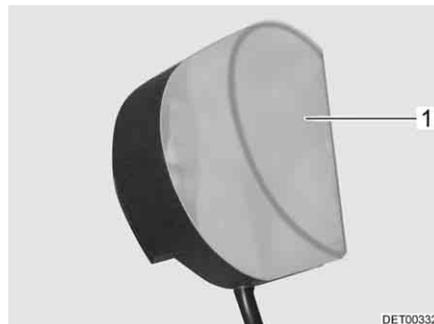

Fig. 241 Wardrobe light
- Press the light covering (Fig. 241,1) lightly together and remove it.